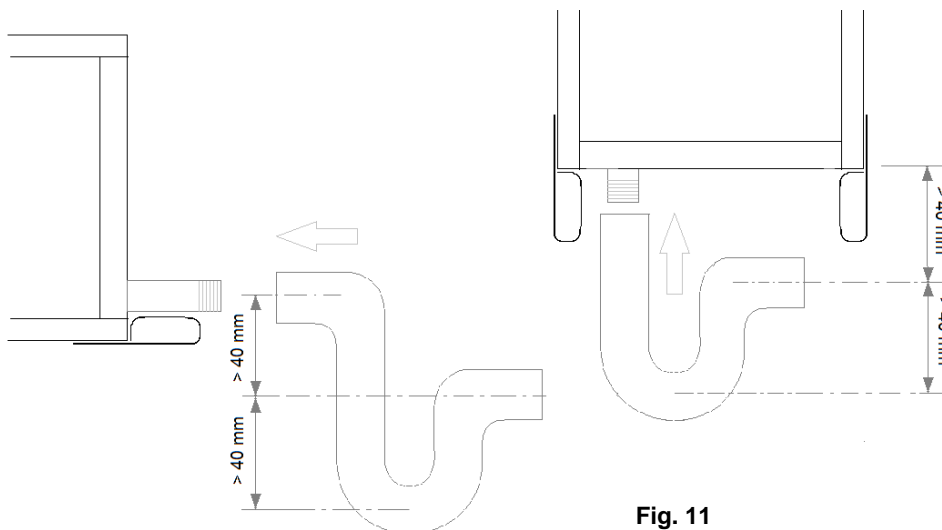

Fig. 11
- The drain trap shall be done as shown on **fig. 11**.